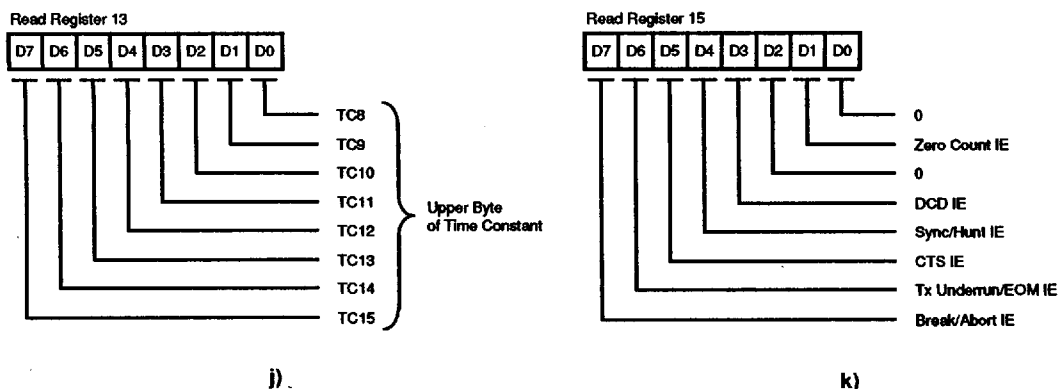

Figure 49. SCC Read Register Bit Functions (Continued)
**f) SDLC FIFO Status and Byte Count (MSB)****Figure 49. SCC Read Register Bit Functions (Continued)**